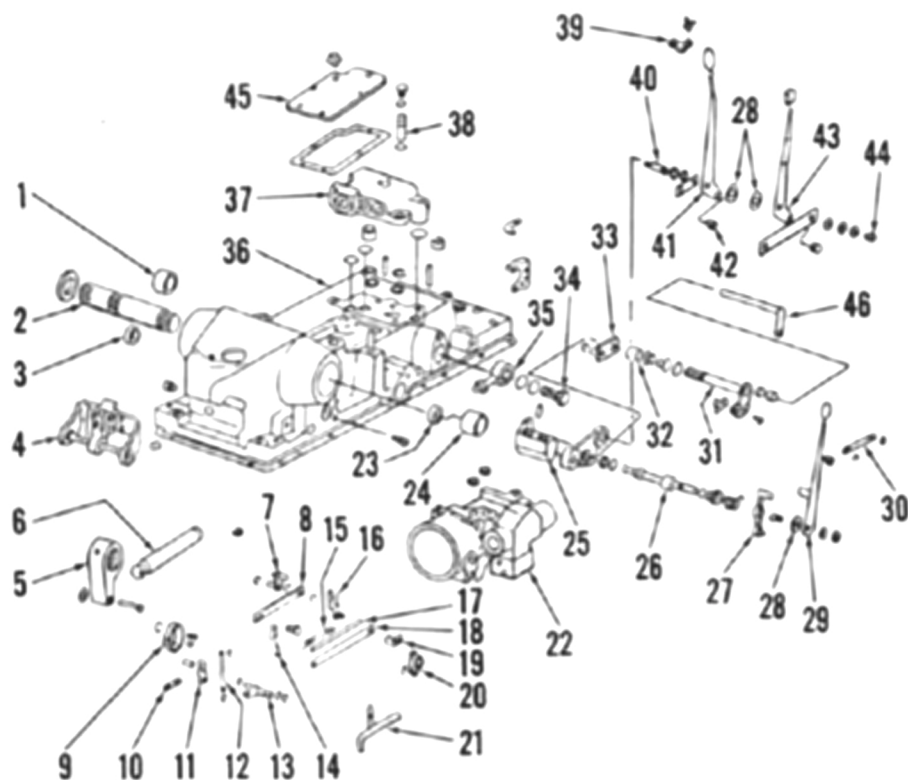

Fig. 181 - Exploded view of hydraulic lift control linkage.
Remove control rods (1) and load control shaft (46 - Fig. 181) with bearings. Remove three cap screws holding control lever support to lift housing. Disconnect linkage from flow control arm (27) and remove position control shaft (31). Remove flow control lever (29) and friction disc (28), drive out roll pin and remove pivot bolt. Remove flow control arm (27) with return spring. Remove flow control valve plug and spool (26).
140. REMOVE AND REINSTALL. To remove the rockshaft (2 - Fig. 181) first remove lift housing as outlined in paragraph 136 and lift cylinder and valve as in paragraph 138. Remove set screws from actuating hub (9 - Fig. 181) and rockshaft bellcrank (5). Remove the right lift arm and slide rockshaft from right to left out of housing, bellcrank and actuating hub. Remove actuating hub key as soon as it is exposed. If actuating hub sticks on rockshaft, pry against it with a heavy screwdriver so linkage will not be damaged.